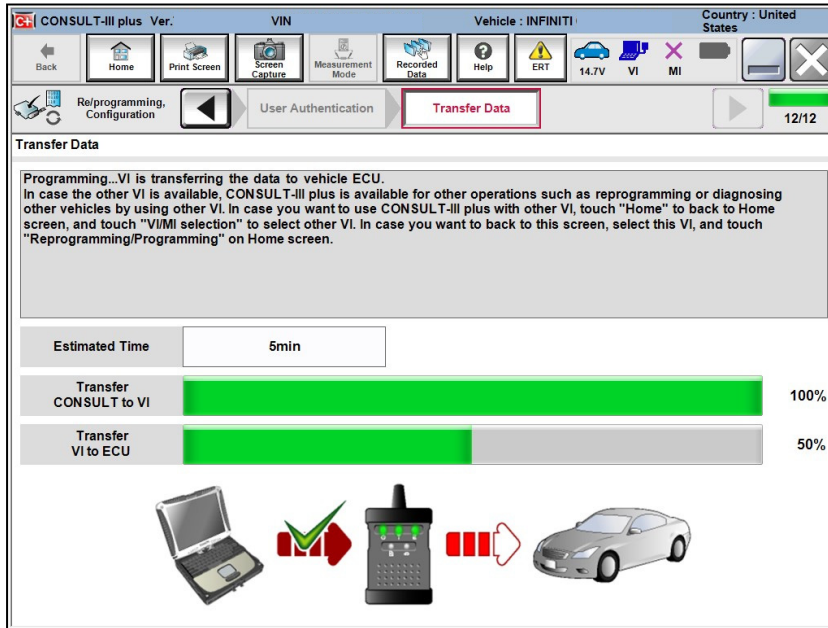

Figure 21
- Once authentication completes, power steering control module reprogramming will automatically begin and the screen in Figure 21 on page 16 will be displayed.